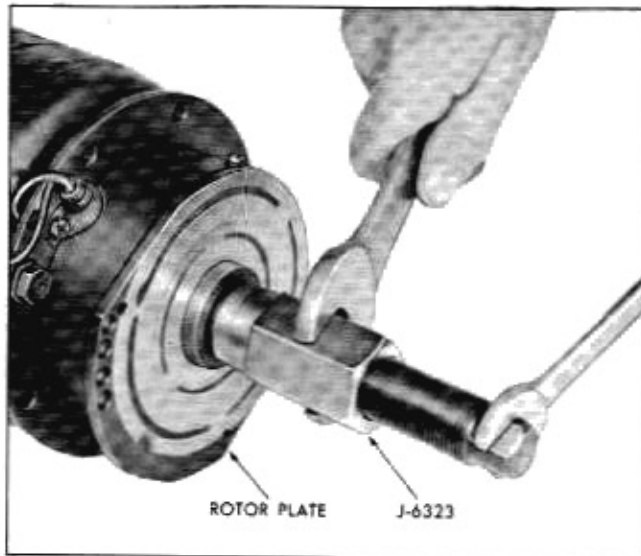

Fig. 7-42 Installing Rotor Plate
i. Install the pulley assembly using J-6323 and J-6323-5 Adapter in a similar manner as installing the rotor plate assembly (Figs. 7-42 and 7-43).